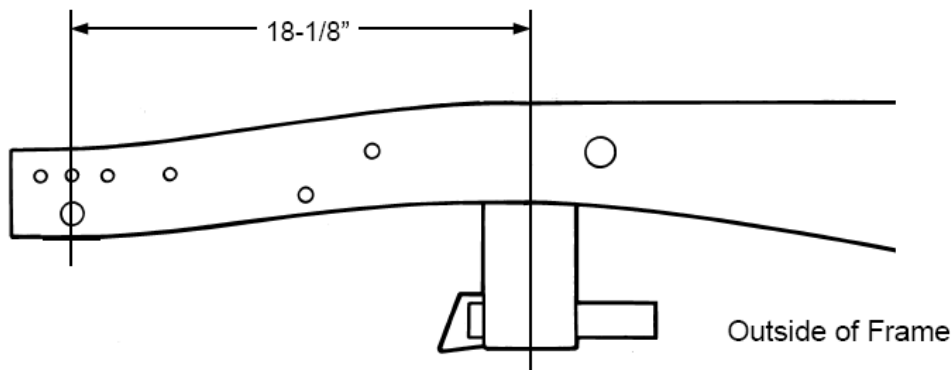

Figure 1- Crossmember Install
4. Now it is time to install the new crossmember. Measure straight back 18-1/8" from the center of the front spring shackle hole in the frame and make a vertical line. See **Figure 1**. This will be the center of the crossmember and spindle centerline. Slip the crossmember up into the frame and center it on the centerline mark. If it does not fit up into the frame, grind the sides of the crossmember uprights until it fits in place. Make sure it is fully seated on the underside of the frame. It should be seated flat against the bottom of the frame rails. Clamp in place, double check your measurements, making sure the crossmember is squared to the frame, then weld in place. Weld all around, top, sides and bottom. This crossmember keeps the front frame rails from twisting and flexing, so good strong welds are required.